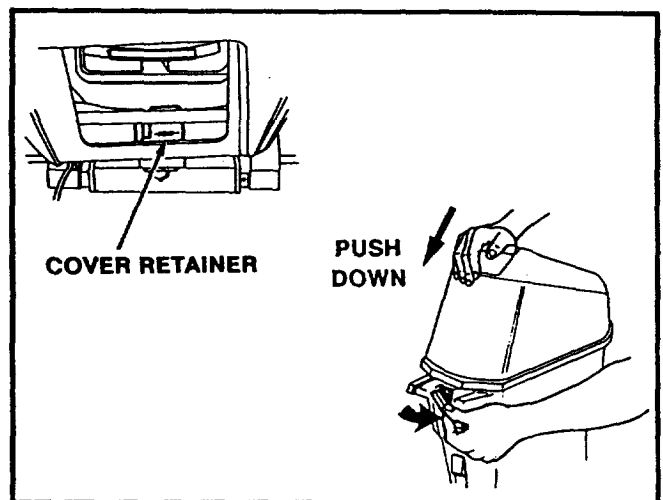

FIGURE 21
- Place cover retainer into slot in front of motor cover. (Figure 21)